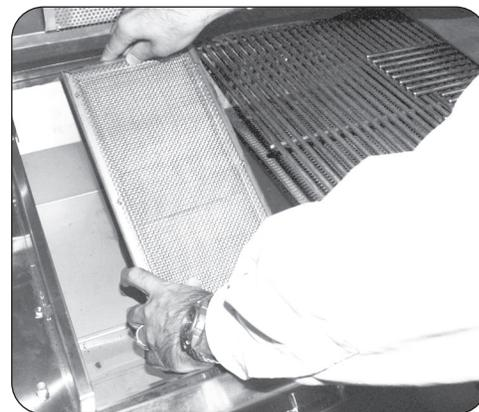

Fig. 4-4 Install new burner
4. Install the infrared burner by first sliding it over the orifice, then line up the two tabs in back of the burner with the two slots in the back of the grill and lower them carefully into place (see Fig. 4-4).